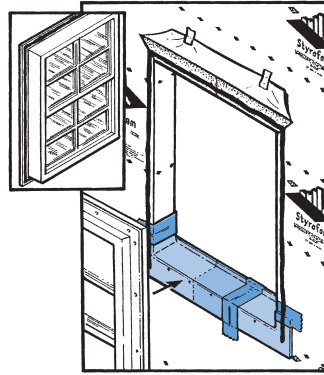

Figure 3
- a. Apply sealant at window jambs and head only. Or back-caulk the window, applying sealant on the back side of the nailing flange (Figure 3). Make sure sealants, housewraps and flashings are chemically compatible.